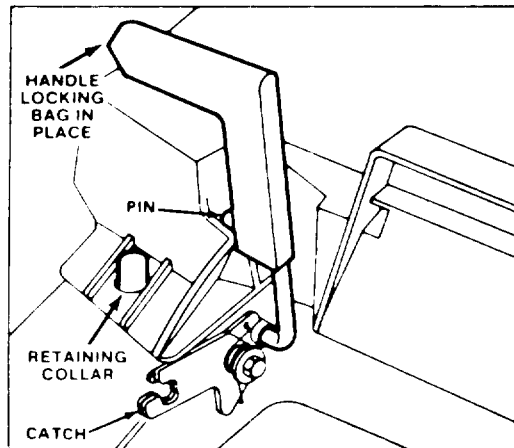

Figure 10
**3. INSTALLING BAG**—Slide hole in bag frame onto retaining collar on housing (Fig. 10) and set rear of bag frame onto lower handle.
**4.** Pull chute door handle forward until pin clears catch and move handle rearward until pin locks in bag notch (Fig. 10). Chute door in mower housing is now open. It may be necessary to push down on top right of bag door to release handle locking pin from catch.